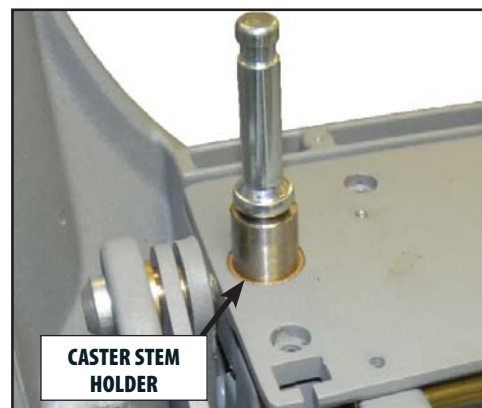

FIGURE 6.52
9. Remove the Caster Stems. Refer to **Figure 6.52**.